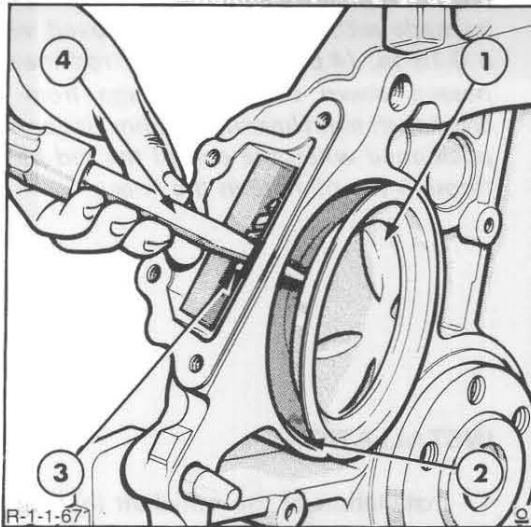

Figure 68
7. For engines without a gear on the rear end of the camshaft, the camshaft can be withdrawn from the front of the engine. If the camshaft is equipped with a gear, the flywheel and rear cover plate must be removed and the camshaft rear cover driven out with a punch, Figure 68. Remove the key and spacer from the front of the camshaft and carefully withdraw the camshaft from the rear of the engine.